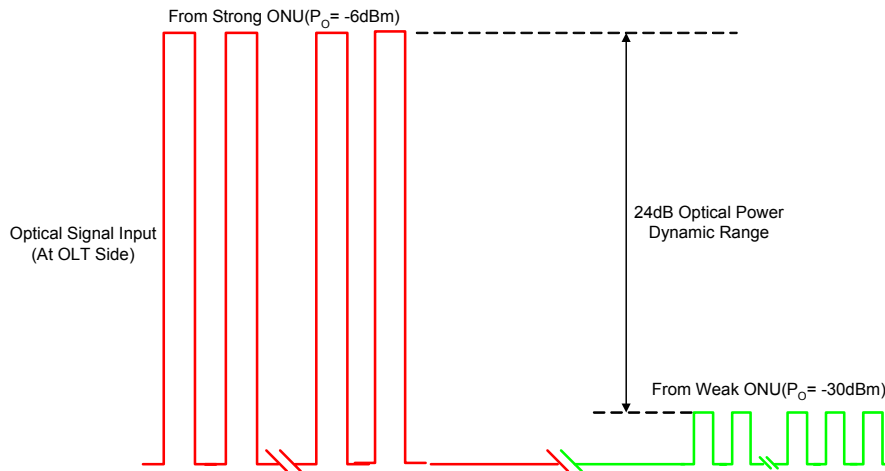

Figure 3, Burst Mode Receiver Dynamic Range
8. See Figure 3. T_{GAP} be less than 250ns is guaranteed.